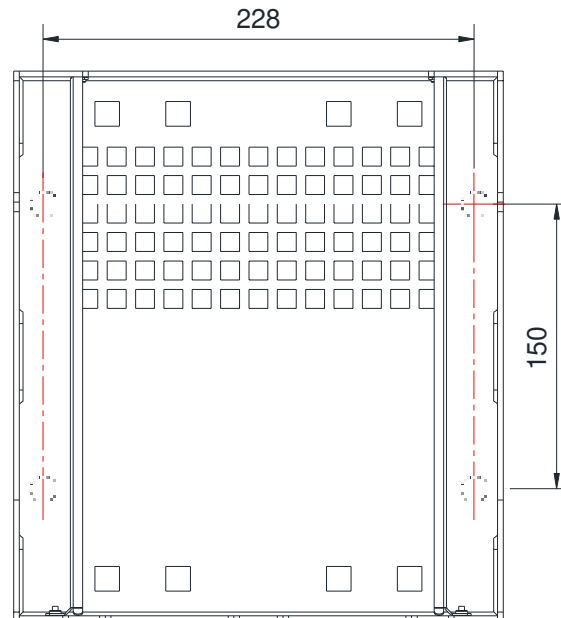

Figure 4 Wall-mounting Drilling Dimension Diagram
**Step1:** Remove the mounting rack from the MRU, use percussion drill to drill 4 pole of  $\Phi 14$  with 65-75 mm depth, as shown in Figure 4.